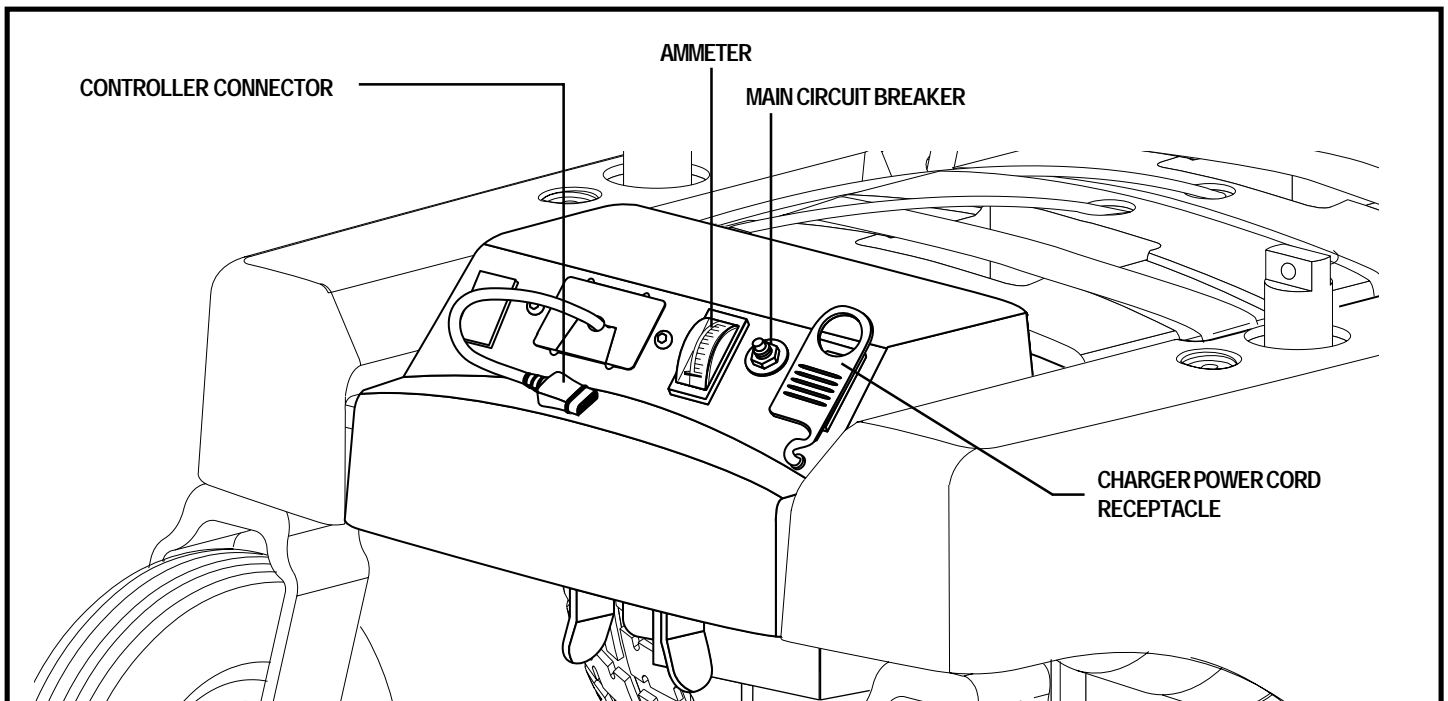

Figure 6. Power Base Rear View - Electronics Tray
The electrical components consist of the controller, the batteries, and the motors. The batteries, motors, and controller power module (if equipped) are located on the power base assembly. The controller is located on the seat assembly. Connectivity between the controller and the motors, batteries, and the battery charger is provided by one or more wiring harnesses. See figures 6 and 7.
1. Disconnect the controller cable from its connector on the power base. See figure 6. You may need to pull firmly and gently wiggle the connector.